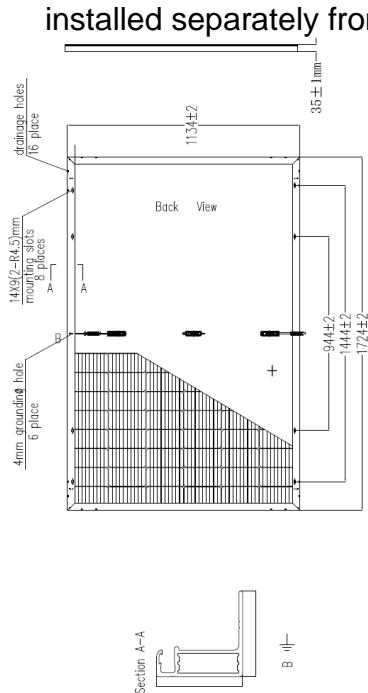
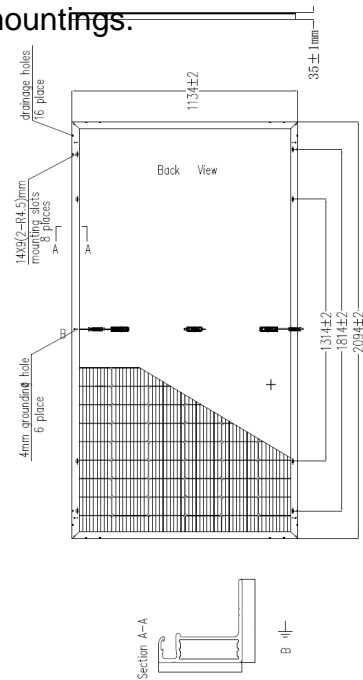
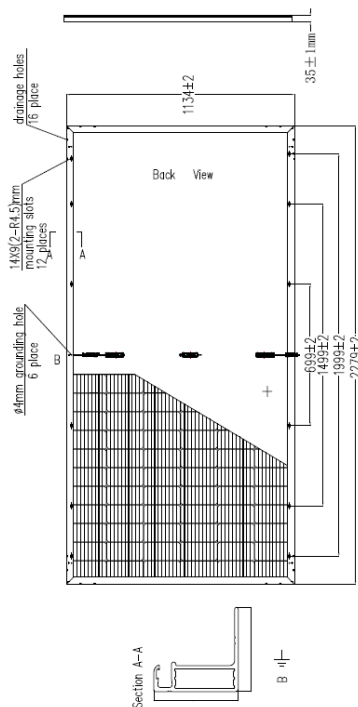

Fig.8-1 UL-XXXM-108HV
Fig.8-2 UL-XXXM-132HV
Fig.8-3 UL-XXXM-144HV
- ① Each module has two grounding holes (see Fig.8-1, Fig.8-2, Fig.8-3). The symbol is located adjacent to the terminal. The grounding point must be installed separately from the mechanical mountings.